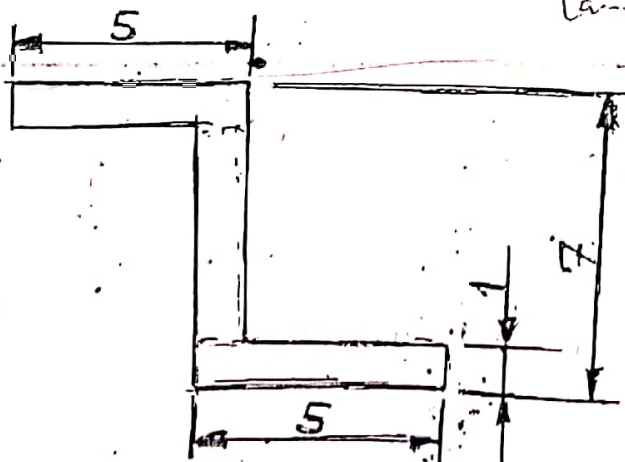

Fig. Q. 2.(b)
- ANSWER ALL THREE(3) questions(Q.3 being compulsory).
- (a) What is the difference between a shaft and an axle? *is the shaft in the wheel hub and axle is in the wheel rim* (2)
- (b) What is a spindle? *is the shaft in the wheel hub* (2)
- (c) List at least four properties of materials required for shafts. *high strength, high stiffness, high fatigue resistance, high wear resistance* (4)
- (d) State the two most common types of failure for shafts and mention the causes in each. (4)
- (i) Steps and collars. (2)
- (ii) Fillet radii. (2)
- (b) Fig. Q. 2.(b) is a Z section. Determine the area moment of inertia of the section about a horizontal c.g. axis parallel to the legs. Dimensions in cm. (6)
- Calculate a suitable outer diameter of a hollow shaft at a section where a bending moment of 400 Nm and a twisting moment of 2 kNm act. The material of the shaft has $S_{ut}=370$ MPa and $S_y=240$ MPa. The ratio of the inner to outer diameters is to be 1:2. (8)